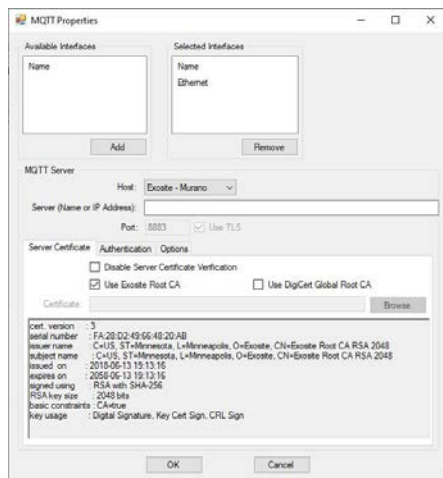

Figure 28-7A
- b. Server Certificate tab. Refer to Figure 28-7A.